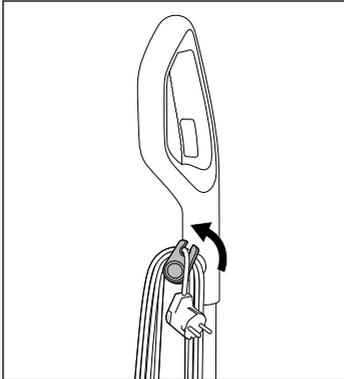

Fig. 43
- ◆ Pull the upper cable retainer **16** out a little and turn it back upwards (see fig. 43).